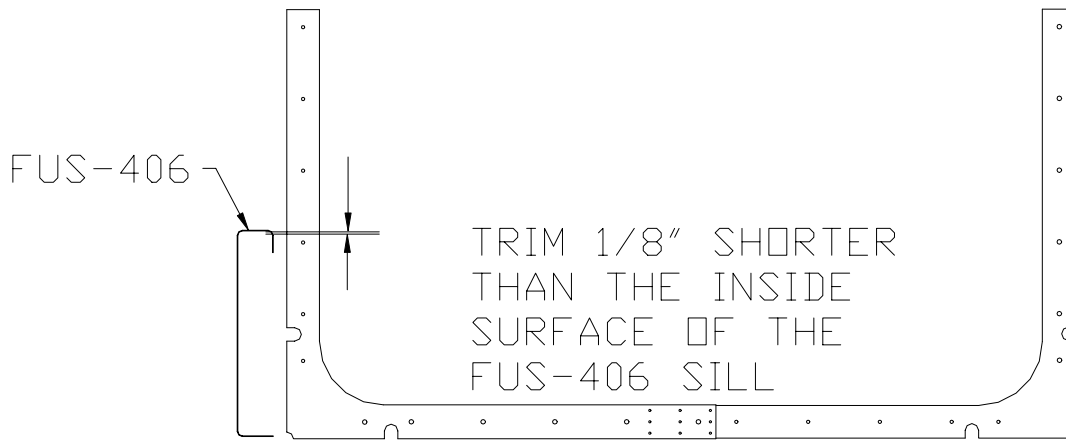

Figure 9.6.3
4) Use the FUS-406 Sill as a trim guide. Mark and trim the Bulkhead Assembly as per Figure 9.6.3. **NOTE:** FUS-406 is tapered, so make sure it is in the proper location before marking and trimming. Each leg on the R-Bulk assembly will be a different height.